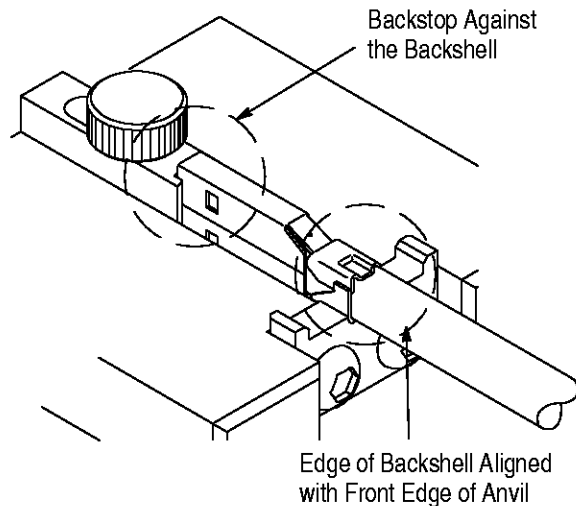

Figure 6
3. Place the backshell and cable onto the crimper assembly base over the anvil. Align the edge of the backshell with the front edge of the anvil (Figure 6).
5. Loosen the thumbscrew on the backstop and adjust the backstop until it butts against the backshell. See Figure 6. Tighten the thumbscrew.